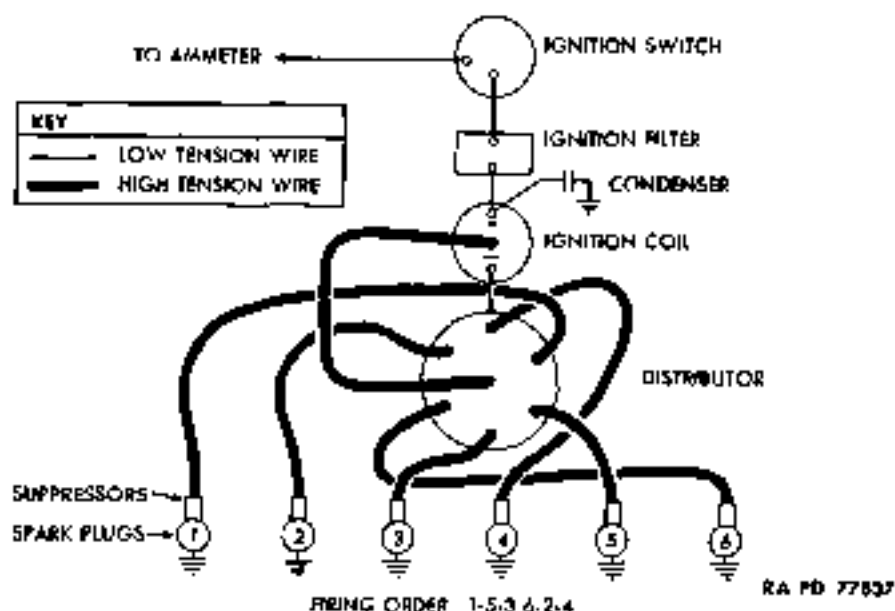

Figure 43 - Ignition System Wiring Diagram
### 79. DESCRIPTION (fig. 43).
a. **Description (fig. 43).** High tension wires are used to conduct high-voltage current from ignition coil to distributor and from dis-
(1) **REMOVE SPARK PLUG WIRE** (fig. 43). Loosen both wing screws, and lift floor board insert from floor board. Loosen both spring catches on open right-hand side of engine hood. Pull wire from distributor and spark plug, then pull wire from nipples which hold it in position between distributor and spark plug.
(1) **INSTALL SPARK PLUG WIRE** (fig. 43). Thread wire through nipples which hold wire in position between distributor and spark plug. Push ends of wire onto spark plug and into tower of distributor cap, respectively. Close engine hood and engage both spring catches. Install floor board insert, and tighten both wing screws.